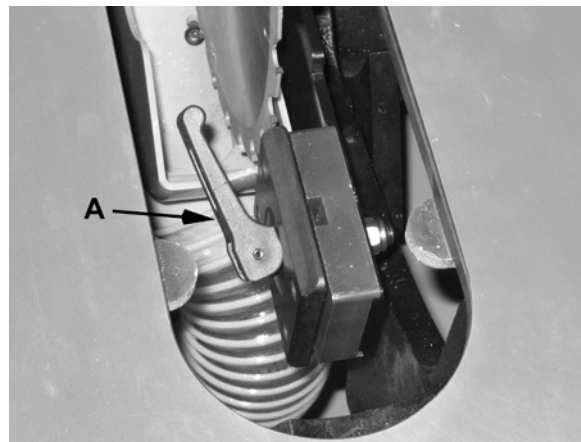
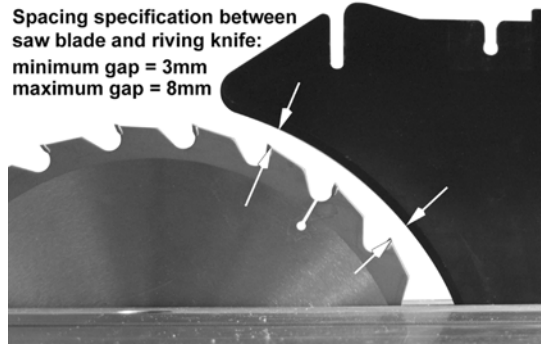

Figure 18
Figure 20
4. Loosen the *lock handle* (A, Fig. 18) and remove the riving knife, making a note as to which direction the riving knife needs to be moved to align it with the saw blade.
Adjust any number of setscrews required to bring the riving knife in alignment with the saw blade. Then reinsert the riving knife, secure by tightening the *lock handle* (A, Fig. 18) and check the alignment per step 2.
Note: Position the lock handle *towards* the saw blade as shown in Figure 18. This will avoid the table insert from being lifted when the blade is raised with the handwheel.
The gap between the saw blade and riving knife must be between 3 and 8mm (Figure 20). If adjustment is needed, note whether the blade to knife gap needs to be increased or decreased. Then adjust as follows:
3. Slide the *fixed clamp block* (F) toward or away from the saw blade as required.
4. Tighten the *socket head button screws* (E).
5. Reinsert the *ripping knife*; tighten the *lock handle* (A, Fig. 18) and check that the saw blade/knife gap is between 3 - 8mm (Figure 20).